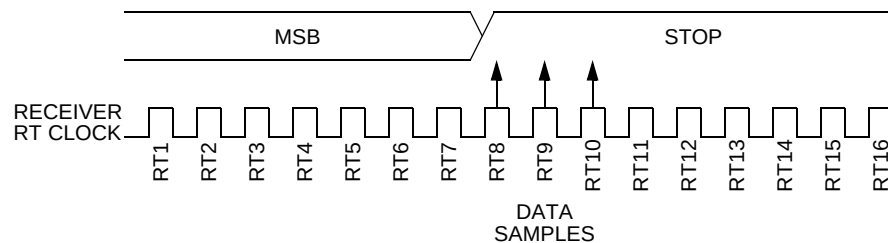

**Figure 13-10. Slow Data**
**Figure 13-10** shows how much a slow received character can be misaligned without causing a noise error or a framing error. The slow stop bit begins at RT8 instead of RT1 but arrives in time for the stop bit data samples at RT8, RT9, and RT10.
With the misaligned character shown in **Figure 13-10**, the receiver counts 154 RT cycles at the point when the count of the transmitting device is 9 bit times  $\times$  16 RT cycles + 3 RT cycles = 147 RT cycles.
With the misaligned character shown in **Figure 13-10**, the receiver counts 170 RT cycles at the point when the count of the transmitting device is 10 bit times  $\times$  16 RT cycles + 3 RT cycles = 163 RT cycles.